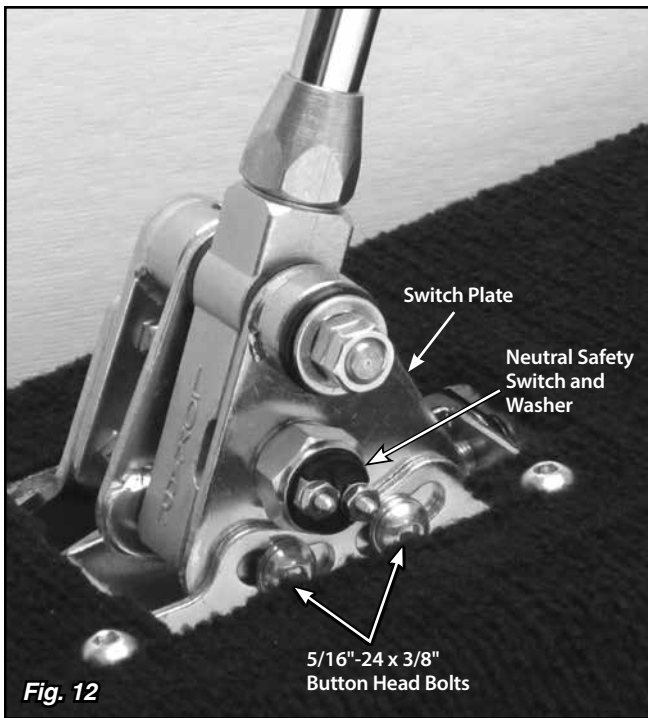

Fig. 12
Step 17: Remove the neutral safety switch and washer (Fig. 12) from the right side of the shifter using a 7/8" wrench or socket.
Step 18: Loosen, but do not remove, the two 5/16"-24 x 3/8" button head bolts that attach the right side of the floor mount mounting bracket to the switch plate (the bolts are in curved, slotted holes). Fig. 12